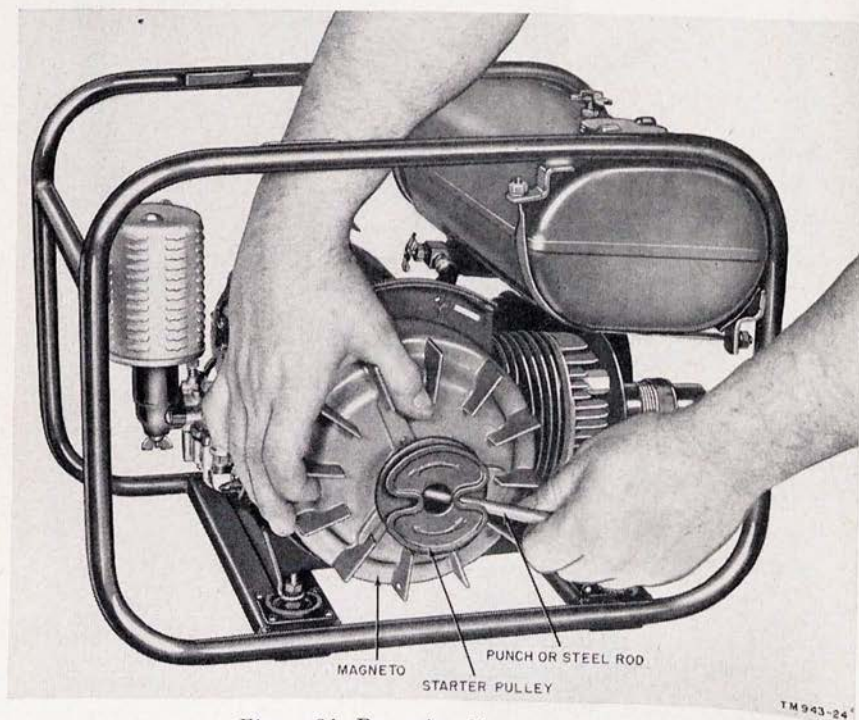

Figure 24. Removing Starter Pulley.
- (2) Insert a punch (or rod) through the starter pulley, turn counterclockwise, and unscrew the pulley from the crankshaft (fig. 24).